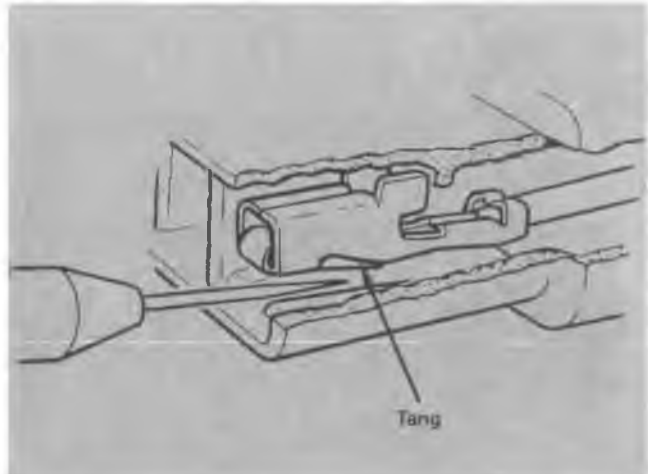

Figure 6-3 Connector (C4A) Terminal Removal
- Step 1** Push the metal pick into the narrow portion of the terminal cavity from the front until it stops. The pick should be placed between the locking tang of the terminal and the plastic of the connector body (see Figure 6-3).